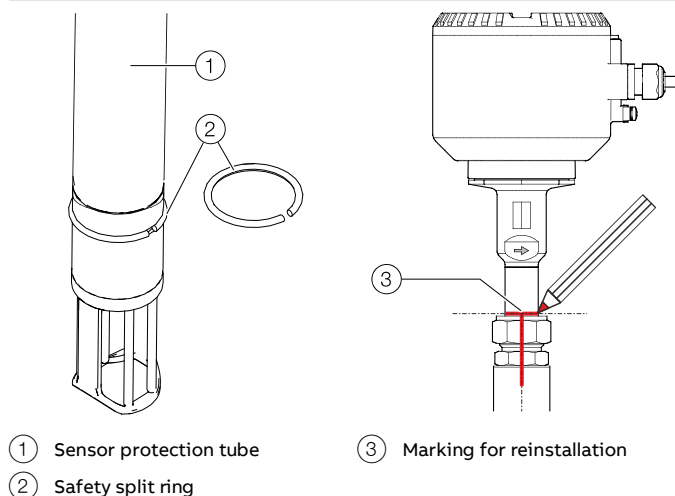

Figure 26: Snap ring and marking
2. Insert the safety snap ring into the snap ring groove using mounting pliers (see Figure 26, item ②).
5. Using a suited marker pen, mark the orientation and height of the sensor on the sensor protection tube, compression fitting and the welding adapter (see Figure 26, Item ③). The marking on the union nut is also used as a starting position (6 o'clock position, see Figure 27) for the tightening of the compression fitting
3. Using a suited marker pen, mark the orientation and height of the sensor on the sensor protection tube, compression fitting and the welding adapter (see Figure 26, Item ③).
1. Make sure that the safety snap ring is inserted in the provided snap ring groove (see Figure 26, item ②).